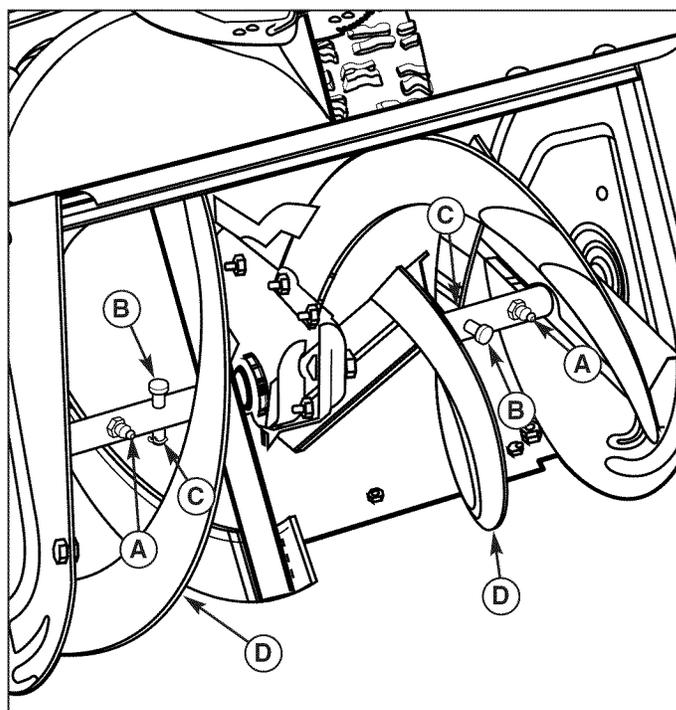

Figure 18. Checking Auger Gear Case Lubrication
1. Remove cotter pin (C, Figure 18) and shear pin (B).
2. Use a grease gun and squirt several shots of grease into grease fitting (A).
3. Rotate auger assembly (D) several times to distribute the grease evenly. Repeat step 2.
4. Reinstall shear pin (B) and cotter pin (C).